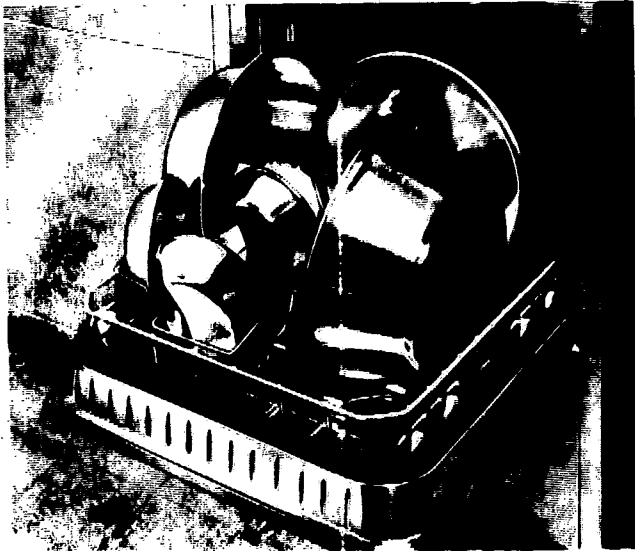

Figure 5-1. First Method of Loading
1. 3 wash basins, 3 drinking cups and 3 emesis or crescent basins (any size). See Fig. 5-1.